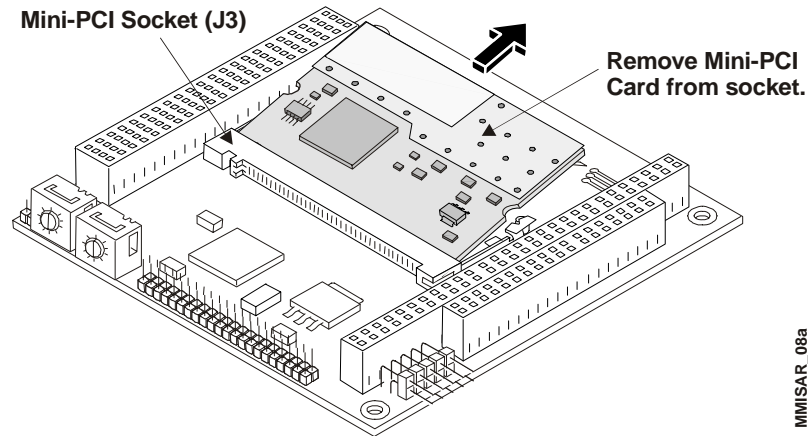

Figure 3-7. Removing Mini-PCI Card from Socket
7. Using the card edges, lift the Mini-PCI card completely away from the socket. See Figure 3-7.